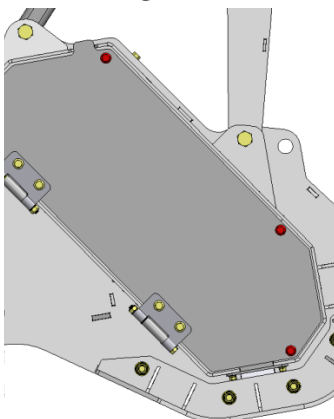

Figure 17
The 79" model has three (3) bolts with the hinged door. See Figure 17.